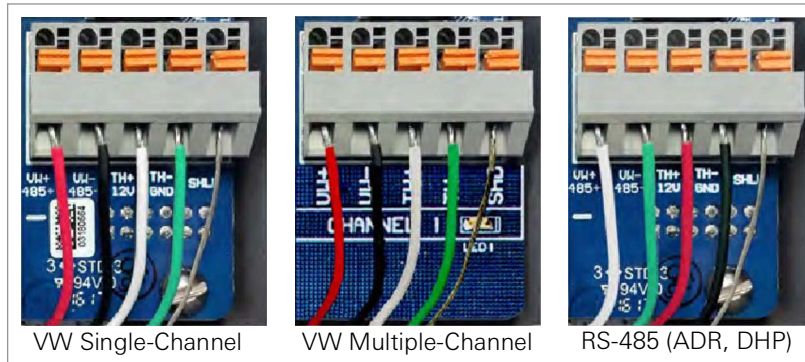

FIGURE 4: Terminal Connections
3. Connect the cable leads to the terminal block by holding down an orange tab, inserting the lead, and then releasing the tab. The wiring order is shown in the Table 4 and 5, and in Figure 4.